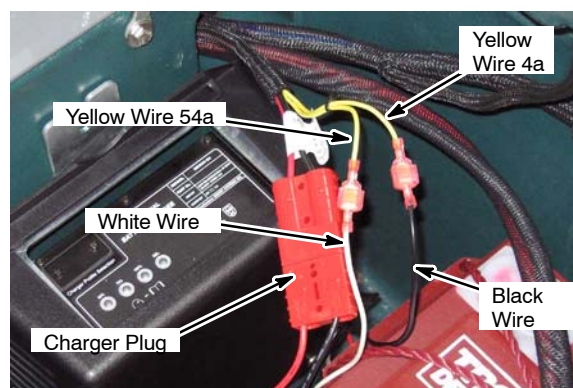

Fig. 8
8. Connect the kit wire harness to the charger as shown (Figure 8).